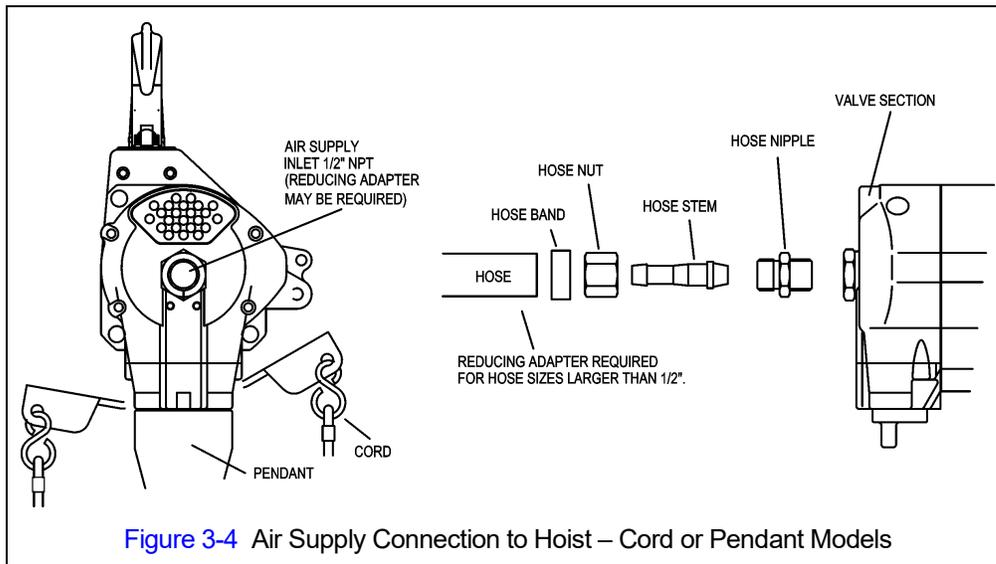

Figure 3-4 Air Supply Connection to Hoist – Cord or Pendant Models
3.8.5 Make connections to air supply; reference Figure 3-4. Use a reducing adapter at the hoist valve section for hose sizes larger than 1/2".